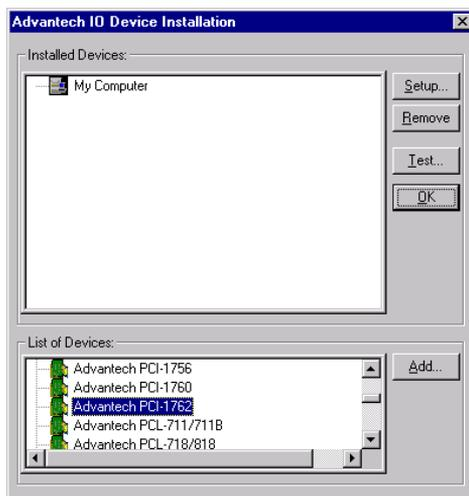

Figure 2-7: The I/O Device Installation dialog box
Step 2: On the *Device Installation* program window, select the Setup menu item on the menu bar, and click the Device command (Fig. 2-6) to bring up the *I/O Device Installation* dialog box (Fig. 2-7). You can then view the device(s) already installed on your system (if any) on the *Installed Devices* list box. Since you haven't installed any device yet, you might see a blank list such as the one on the next page (Fig. 2-7).